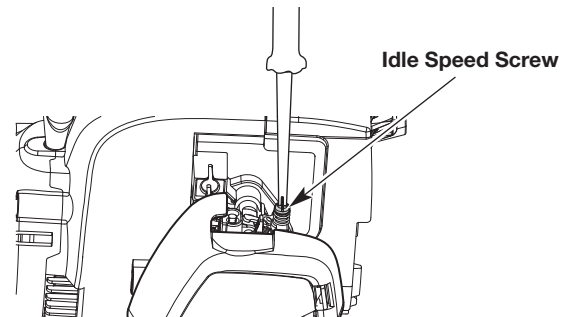

Fig. 23
- If the engine stops, increase the idle speed. Use a small Phillips screwdriver to turn the idle speed screw clockwise, 1/8 of a turn at a time, until the engine idles smoothly (Fig. 23).
- If the cutting head spins when the engine idles, reduce the idle speed. Turn the idle speed screw counterclockwise, 1/8 of a turn at a time, until the cutting head stops moving (Fig. 23).